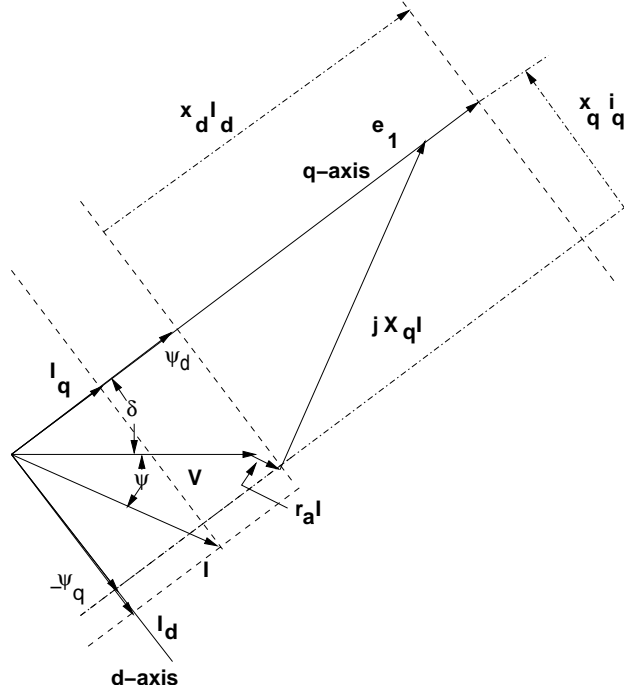

Figure 5: Steady State Operation
7. Steady state operation is found with reference to Figure 5. This should look familiar, with the addition of a little piece that represents voltage produced by armature resistance. Direct and quadrature axis fluxes are related to the voltage 'inside' this resistance: $V_i = V + r_a i_a$. Then the normal rules apply. There is a voltage on the q-axis: $e_1 = V_i + jx_q i_a$ and that sets the torque angle: $\delta = \text{angle}(e_1)$. Then, as normal, $i_d = i_a \sin(\delta + \psi)$ and $i_q = i_a \cos(\delta + \psi)$. Once we have δ , we can also find the fluxes. Noting the angle of the internal voltage: $\alpha = \text{angle}(V_i)$, and with reference to the figure, $\psi_d = |V_i| \cos(\delta + \alpha)$ and $-\psi_q = |V_i| \sin(\delta + \alpha)$.